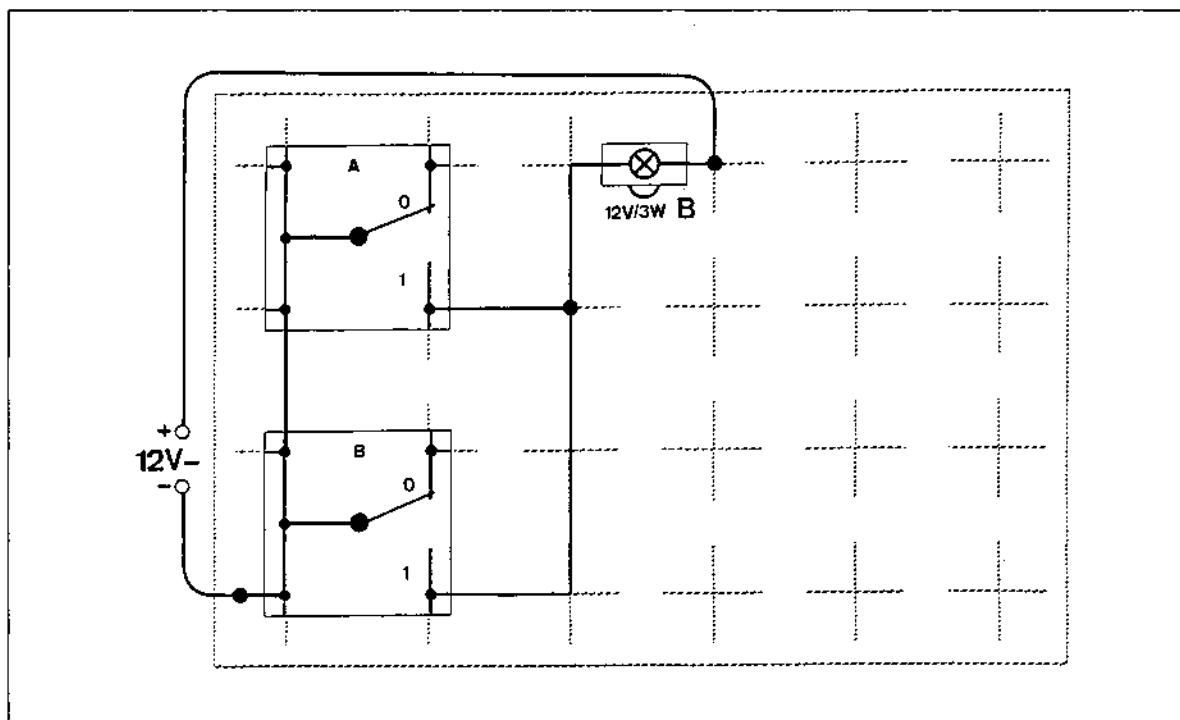

Fig. 2 Experiment setup: OR-gate
5. Set up the experiment as shown in fig. 2